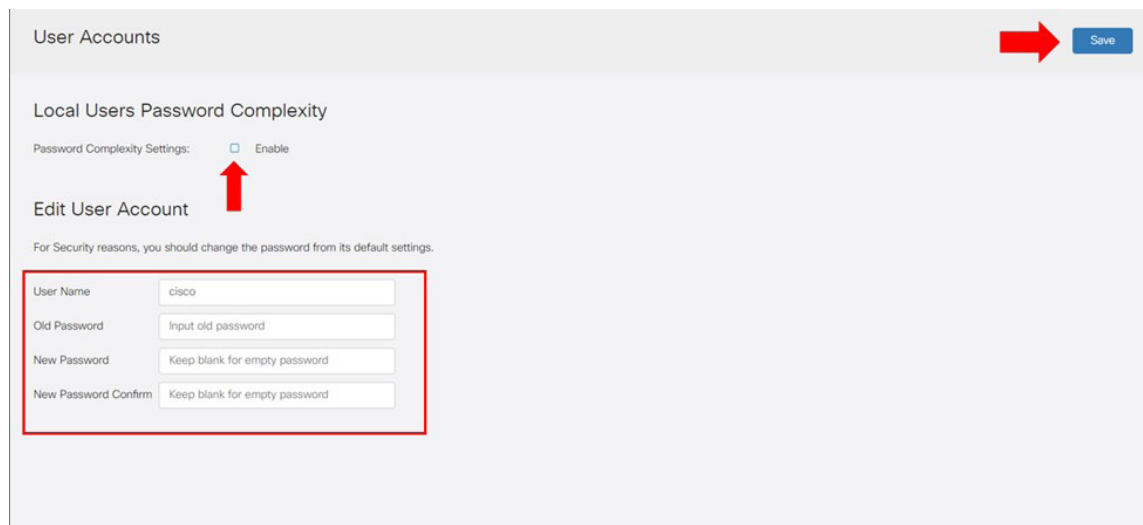

Figure 7
4. After unchecking the "Password Complexity Settings", the page should update as shown below:(Figure 7)